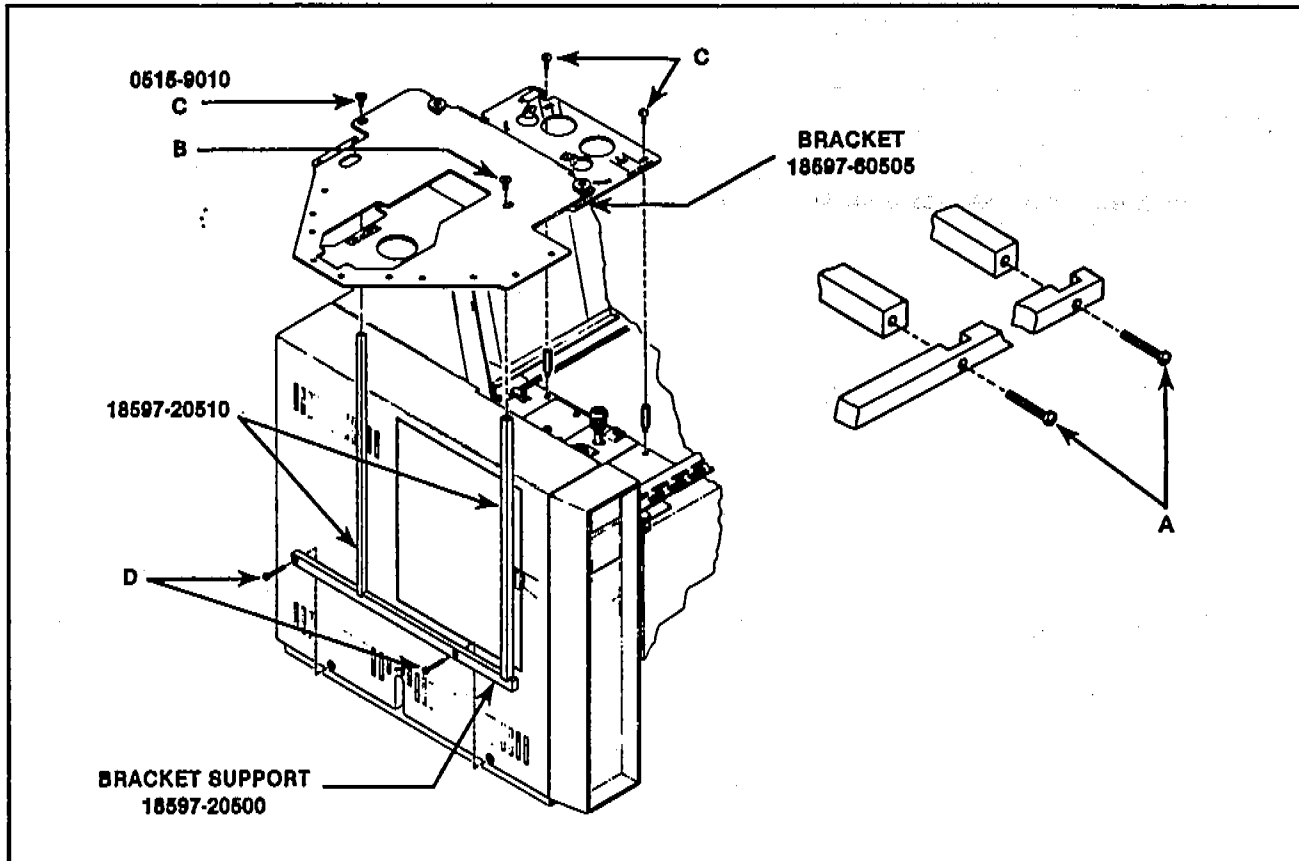

Figure 2-6. Injector/Tray Bracket
1. Assemble the two supports and support rail to match the bracket support in Figure 2-6 (detail "A"). When assembled, the supports should fit flush with the support rail.
4. Position the bracket support next to the instrument and loosely install one "B" and one "C" screw through the bracket (see detail "B,C", Figure 2-6).
5. Install two "D" screws along the bottom edge of the left side panel through the tray support and tighten firmly (see detail "D", Figure 2-6).